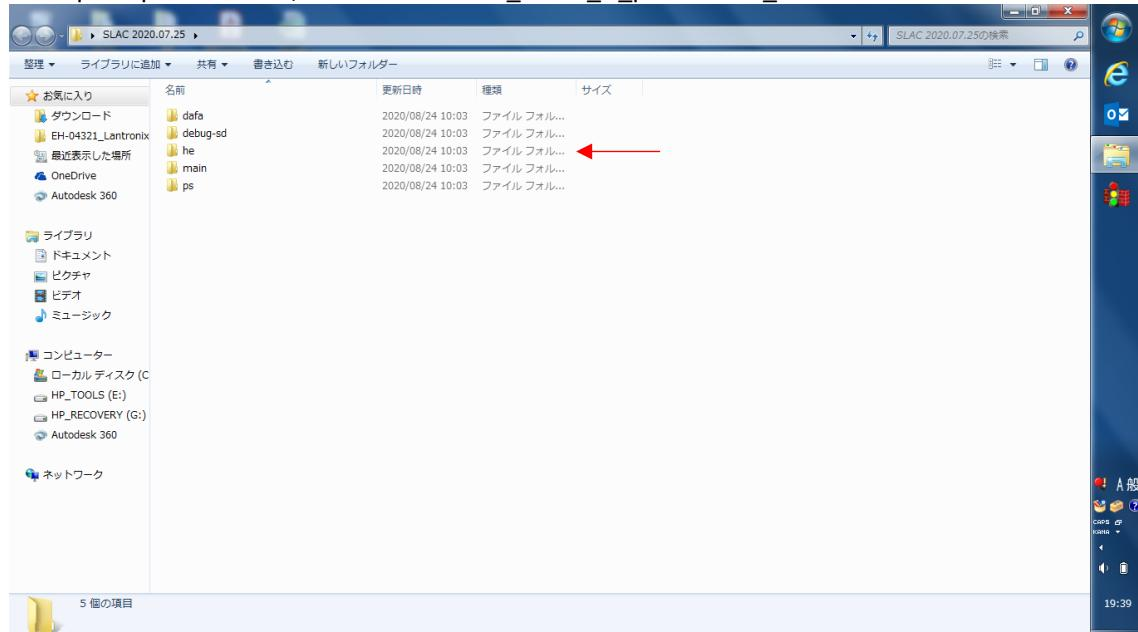

Fig. 3
- 6 Open up “debug-sd” folder on the above folder. (see Fig. 3)